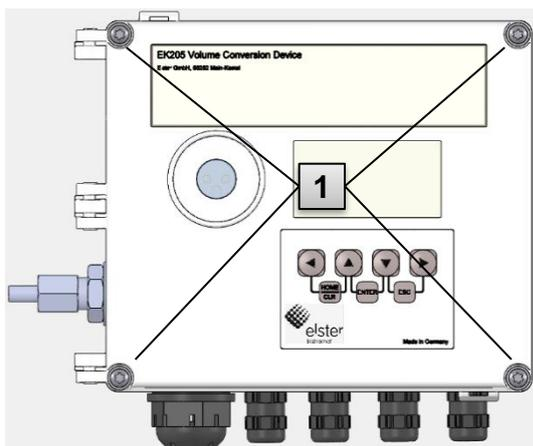

Fig. 24
1. Loosen the four housing screws (Fig. 24: **1**).
8. Close the housing using the intended screws (Fig. 24: **1**).